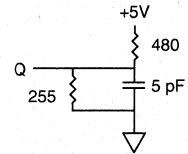

Fig. 2 OUTPUT LOAD EQUIVALENT
- t_{HZCE} , t_{HZOE} and t_{HZWE} are specified with CL = 5pF as in Fig. 2. Transition is measured $\pm 500mV$ from steady state voltage.